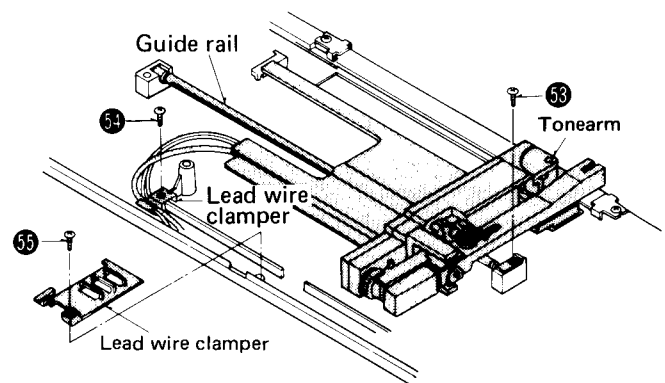

Fig. 13
3. Remove the tonearm guide rail setscrew ⑤③ and lead wire clasper setscrews ⑤④, ⑤⑤. Then the tonearm can be removed. (Fig. 13)